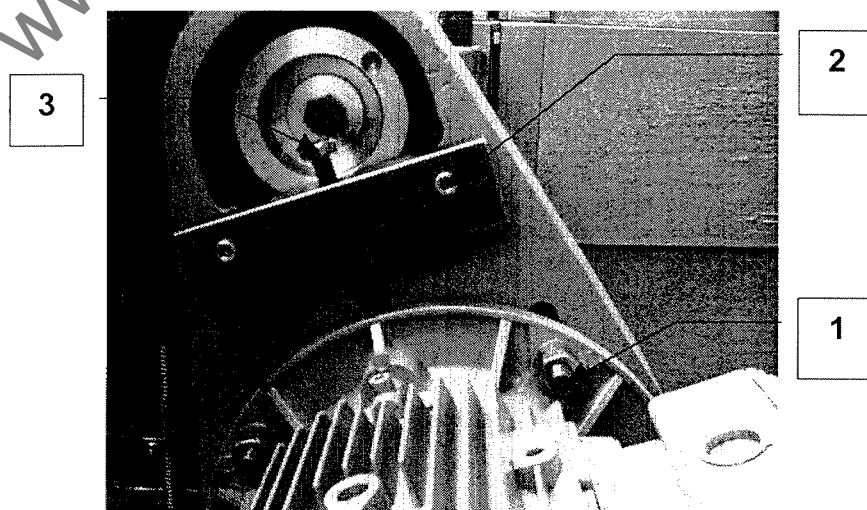
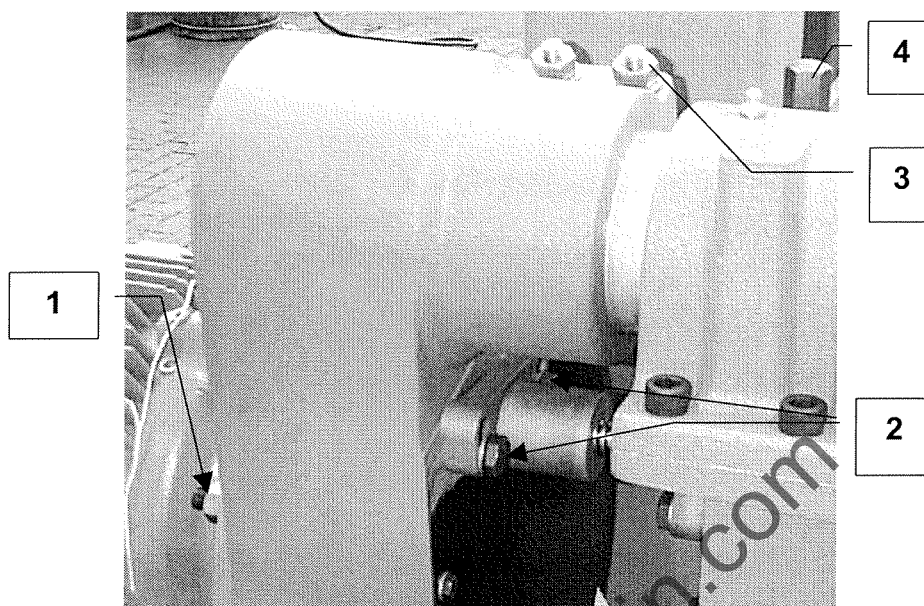

Figure 7.3.1
Figure 7.3.3
7.3.1 Re-tension Top / Bottom Head Drive Belt (Figure 7.3.1)
- 2 Slacken the four flange nuts (1).
- 3 Fit the screw block (2) using the drive cover mounting holes as the fixing position.
- 4 Screw in the tensioning bolt (3) until the bottom of the bolt just touches the motor flange.
- 6 Tighten the four flange nuts (1).
7.3.2 Re-tension Fence / Side Head Drive Belt (Figure 7.3.1)
- 2 Slacken the four flange nuts (1). Ease the motor **away** from the spindle.
7.3.3 Replace Spindle Drive Belt (Figure 7.3.3)
- 4 Check that the barrel locknut (4) is tight.